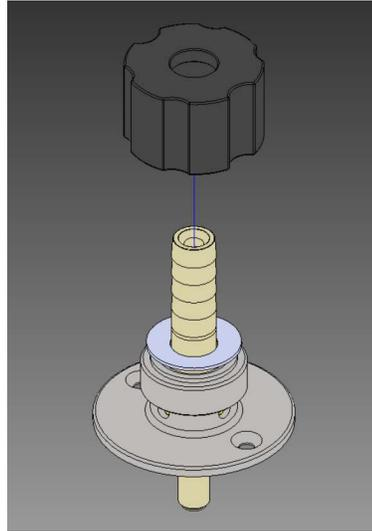

FIGURE F. 15. – KNOB INSTALLATION
5. Install the knob by screwing in a clockwise direction (see Figure F.15.)